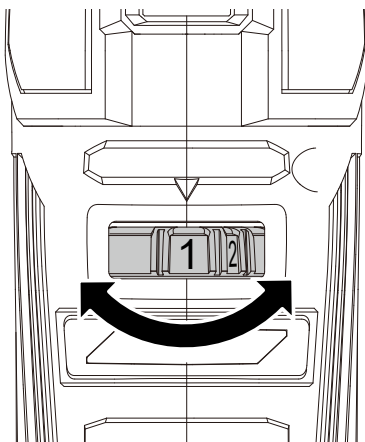

Figure 6
2. SPEED ADJUSTMENT (SEE FIG. 6)